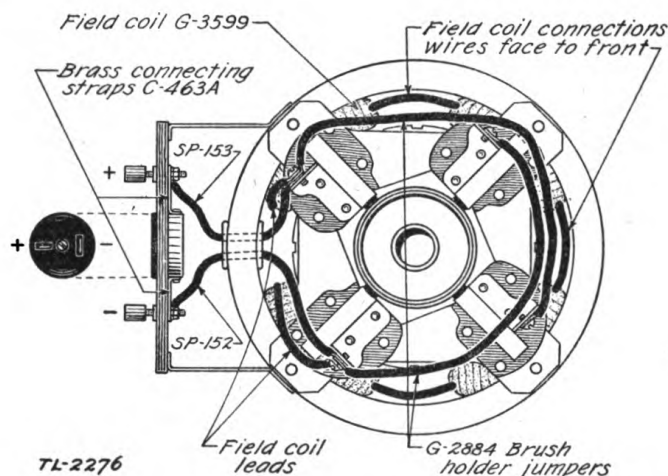

FIGURE 19.—Diagram showing internal connections of generator.
b. *Internal connections of generator.*—The two leads from the field coils, the two jumpers between the brush holders, the two leads to the terminal board posts, and the two panel connecting straps must be connected as shown in figure 19 to assure proper functioning of the generator, and the polarized receptacle must be installed as shown to assure proper polarity.